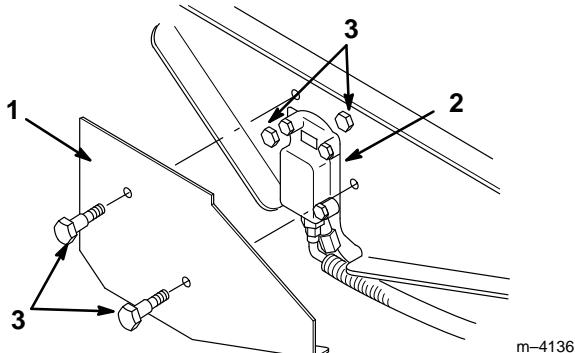

Figure 20
1. Remove the two bolts securing the side guard plate and remove the plate (Fig. 20).
2. Remove the two bolts securing the hydraulic motor housing (Fig. 20)